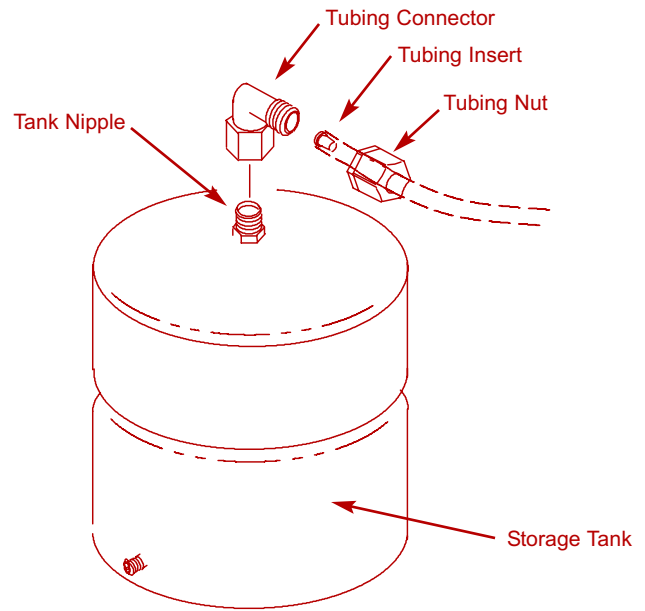

FIG. 12
1. Apply thread sealing tape to the threads on the nipple at the top of the tank. See Fig 12.
2. Locate the tubing connector. See Fig. 12. Tighten the tubing connector with a wrench onto the tank nipple 7-8 turns, being careful not to cross thread or overtighten.
5. Connect yellow tank tubing to tank connector. See Fig. 12 and 23.